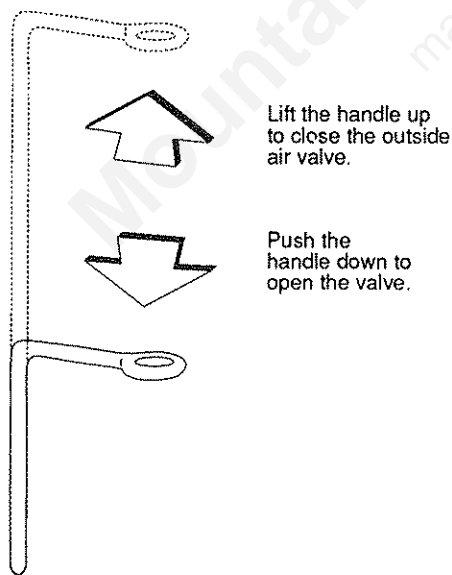

Figure 2. Outside air valve operation.
2. **Outside Air Valve** - The valve is controlled by a handle located at the upper left side of the firechamber. Figure 2. The valve door is opened and closed by pulling the handle up and pushing it down.